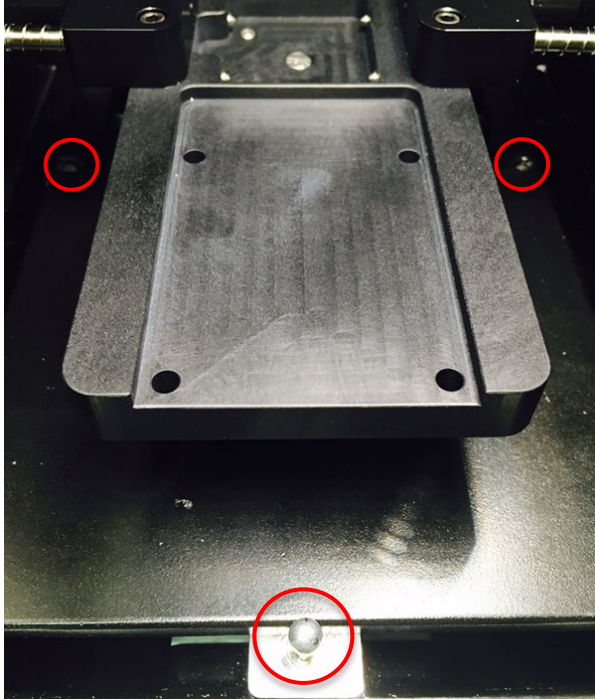
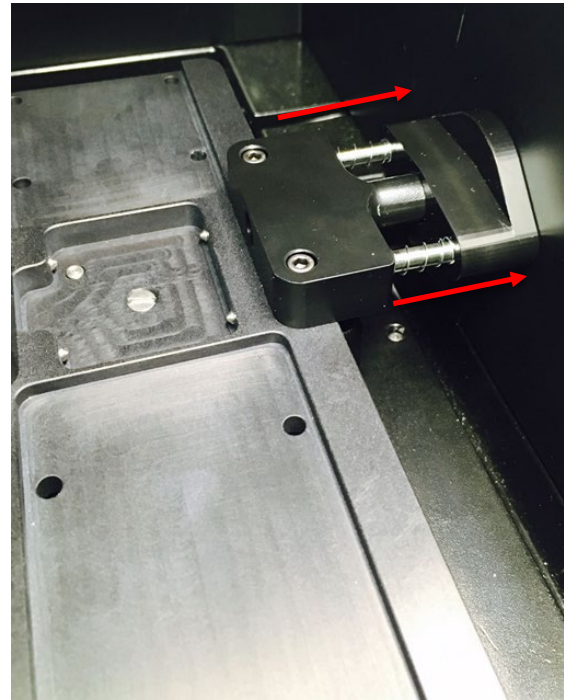

FIGURE 3: Registration pins and front slip-pin
FIGURE 4: Spring-loaded beam tubes
3. Insert the baseplate assembly into the sample compartment of the Evolution 220 using the registration pins at the back, and then push down to secure the plate against the front slip-pin (see Figure 3). Ensure that the spring-loaded beam tubes fit flush against the walls (see Figure 4).